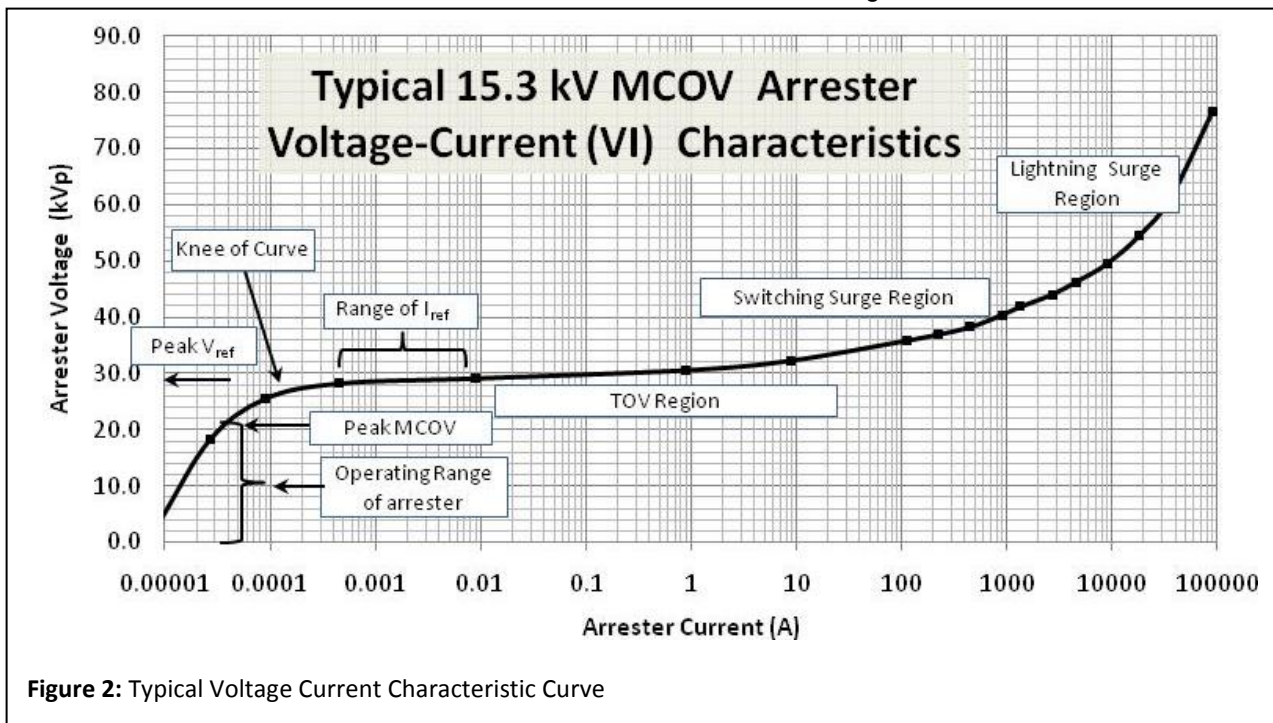
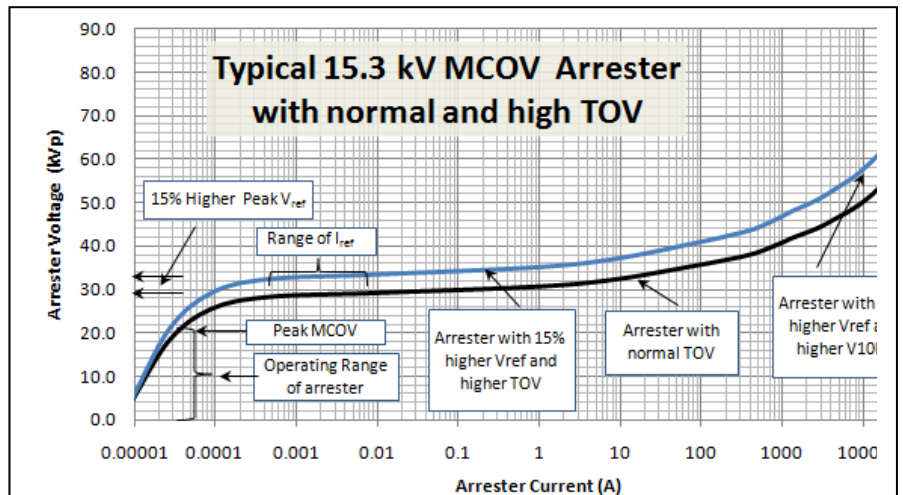

Figure 2: Typical Voltage Current Characteristic Curve
Figure 6: 15.3kV MCOV Arrester with two different Reference Voltages and TOV
A varistor is a variable resistor with its resistance controlled by the voltage stress impressed across the device. The varistor and arrester Voltage-Current Characteristic Curve (VI Curve) is the fundamental and simple way of showing how the resistance changes as a function of the voltage. This characteristic curve is used in many ways, and is heavily relied upon to understand and predict the performance of an arrester. Figure 2 is a typical VI curve for a 15kV MCOV arrester. Once a VI curve is determined for a varistor disk, the data can be used to predict the full arresters characteristics.
VI Curves often show only one polarity of the conduction curve of a varistor as does the one in Figure 2. Varistors are bidirectional devices, and the characteristic curve in the negative direction is identical for new non-impulsed varistors.
Some important points on the VI curve are called out in Figure 2. These points are described in more detail here:
3. **Knee of the Curve:** This is a loosely used term that roughly describes the voltage stress region where the conduction paths through the varistor rapidly change from the operating or leakage region to the conduction region. On a log-linear scale as shown in Figure 2, it appears as a knee on the curve.
It is not obvious, but if a closer look is taken at the VI trace in Figure 2, it can be seen that V_{ref} level and TOV level are very close together. This relationship is fairly constant across all arrester designs. In other words, by design, V_{ref} and V_{TOV} will be close. However the ratio between V_{ref} and MCOV is completely at the discretion of the arrester designer. If it is desirable for an arrester to have a better TOV withstand capability, the arrester can be de-rated so that there is more distance from MCOV peak and V_{ref} . This is easily done by adding more disks to an arrester design. However as it can be seen in Figure 6, it also increases the discharge voltage at 10kA which is not usually desirable.